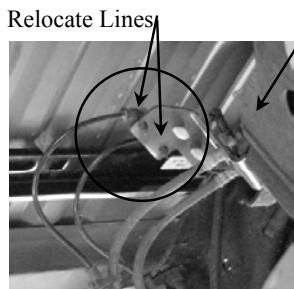

Figure 2a
2. Use the provided cable tie to relocate the lines connected to the bracket on the driver's side of the vehicle, shown in Figure 2a.